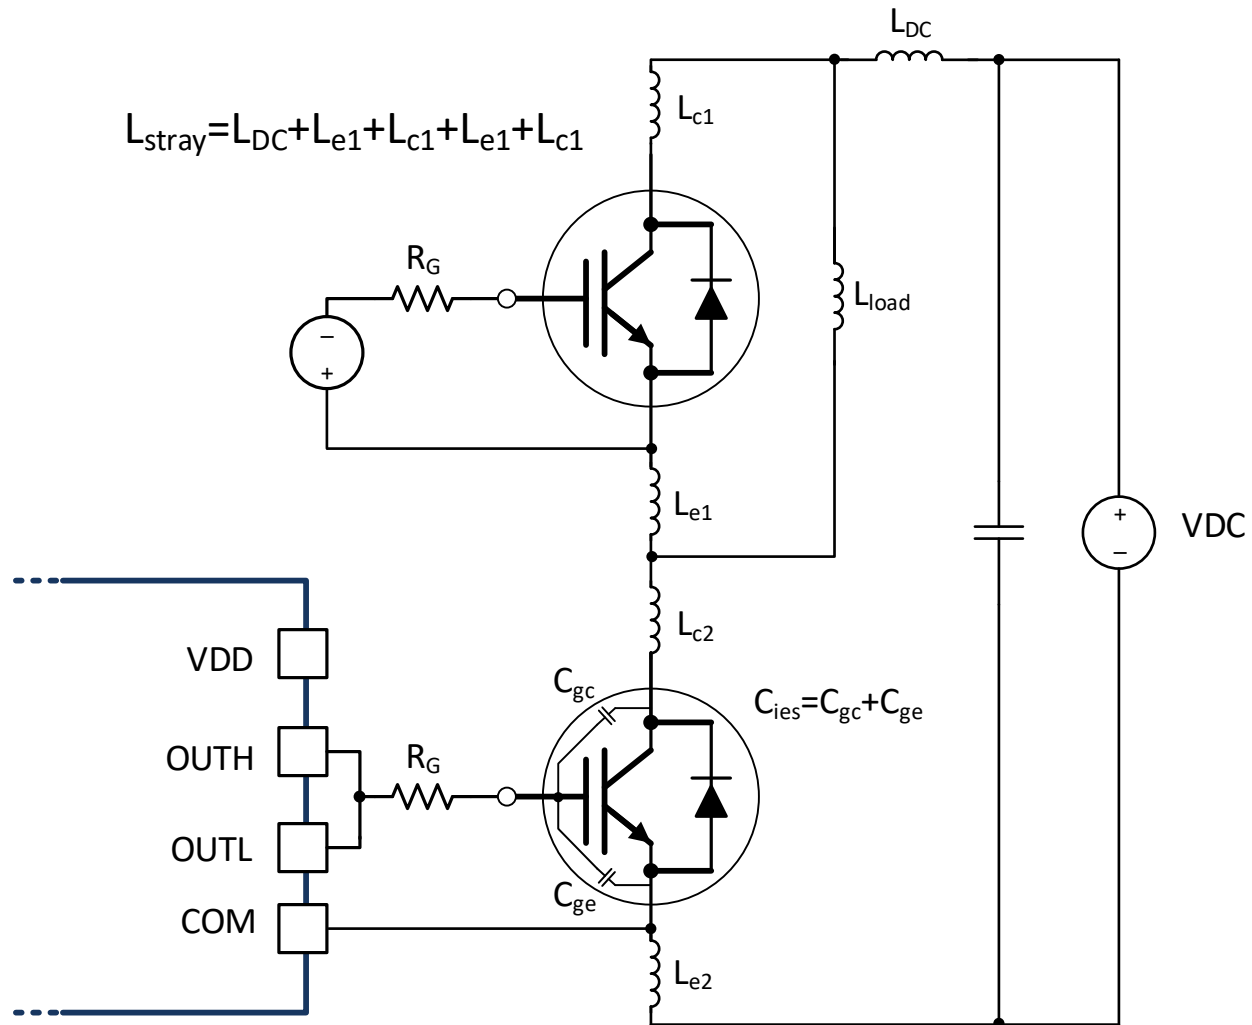

FIG 49. Stray Parasitic Inductance of IGBTs in a Half-Bridge Configuration
- L_{stray} is the stray inductance in power switching loop, as shown in 图 49